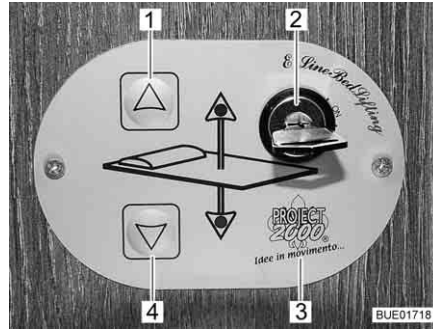

Fig. 119 Control unit
The pull-down bed is raised or lowered using the buttons (Fig. 119,1 and 4) on the control unit (Fig. 119,3). The control unit is protected against unauthorized use with the key switch (Fig. 119,2).
- Turn key in the key switch (Fig. 119,2). The control unit (Fig. 119,3) is activated.
- Press the arrow key (Fig. 119,4) and keep it pressed until the pull-down bed has moved down into the desired position.
- Press the arrow key (Fig. 119,1) and keep it pressed until the pull-down bed has moved down into the final upper position.